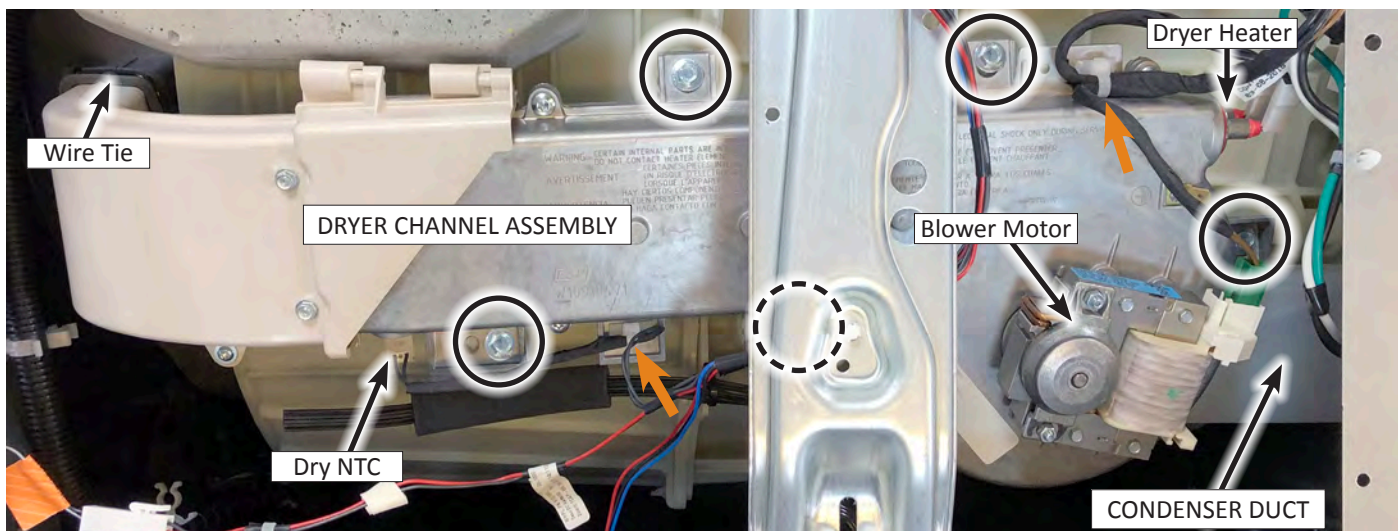

Figure 1 - Dryer Channel Assembly
8. Unclip the two wire clips as shown by arrows in Figure 1 .
9. Use a 5/16" nut driver or socket to remove five (5) screws as circled in Figure 1 .